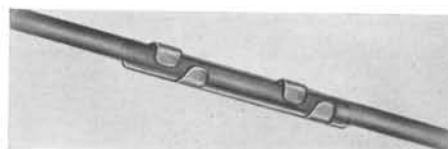

FIG. 24—B ADHESIVE CLIP
7.10 The B Adhesive Clip is shown in Fig. 24.